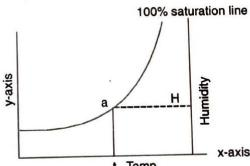

Fig. 11.2. Humidity chart (a portion).
- (a) on the 100% saturation line. Following from this point horizontally on x-axis will give the humidity H (See Fig. 11.2).